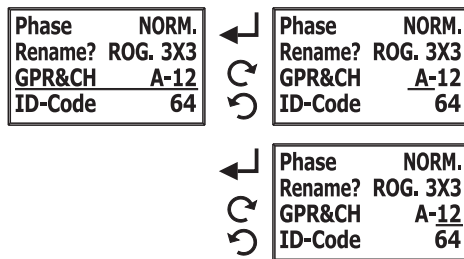

Fig. 19
(J) CHANNEL and ID function, Fig. 19: